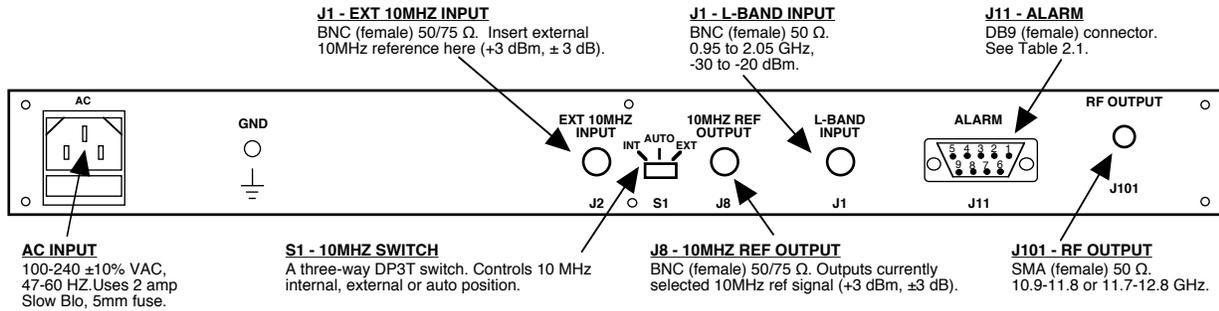

FIGURE 2.1 2115-21-109# Rear Panel I/O's
2.2 Rear Panel Input/Output Signals - Figure 2.1 shows the input and output connectors on the rear panel.
1. Connect a 0.95 to 2.05 GHz signal to L-BAND INPUT, J1 (Figure 2.1).
5. Select either INT (for internal 10MHz ref), AUTO (for internal 10MHz ref UNLESS a external 10MHz, 3 dBm signal is connected to J2), or EXT (for external 10MHz, 3 dBm ref that is inserted at J2) on rear panel switch S1 (Figure 2.1).
7. Check that a 10MHz, 3 dBm \pm 3 dB signal is present at the 10MHZ REF OUTPUT (J8) (Figure 2.1).